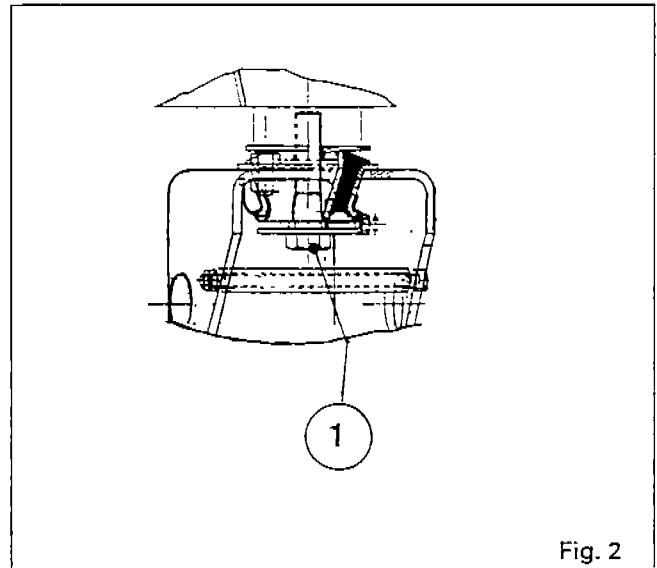

Fig. 2
- *9. Remove the two bolts (1) from the front shock absorbers on the right-hand and left-hand cab supports (Fig. 2). Raise the cab and fit wedges.
11. Detach the control cable from the handbrake. Remove lever **F** and unscrew the control pin (25) (see section 5 K01).